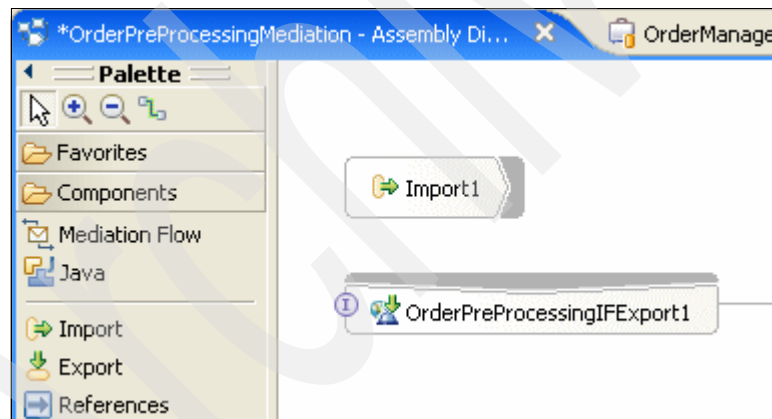

Figure 4-36 New Import for importing OrderManagementProcessEm
12. Open the OrderPreProcessingMediation module assembly diagram. Drag an Import component from the Component sub-menu in the Palette on the left, as shown in Figure 4-36.